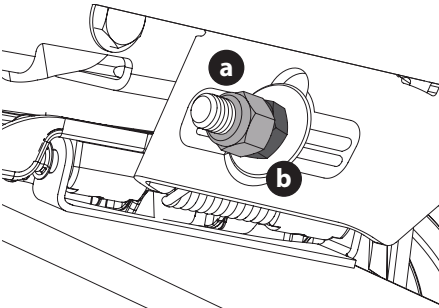

Figure 39
5. To **raise** the front of the deck, remove the end cap, loosen the outer jam nut (a) then tighten (thread inward) the inner nut (b) against the front hanger bracket (Figure 39). When proper adjustment is achieved, re-tighten the outer jam nut (a) to 57 ft-lbs (77 N-m) and replace the end cap.
6. To **lower** the front of the deck, remove the end cap, loosen the outer jam nut (a) then loosen (thread outward) the inner nut (b), away from the front hanger bracket (Figure 39). When proper adjustment is achieved, re-tighten the outer jam nut (a) to 57 ft-lbs (77 N-m) and replace the end cap.